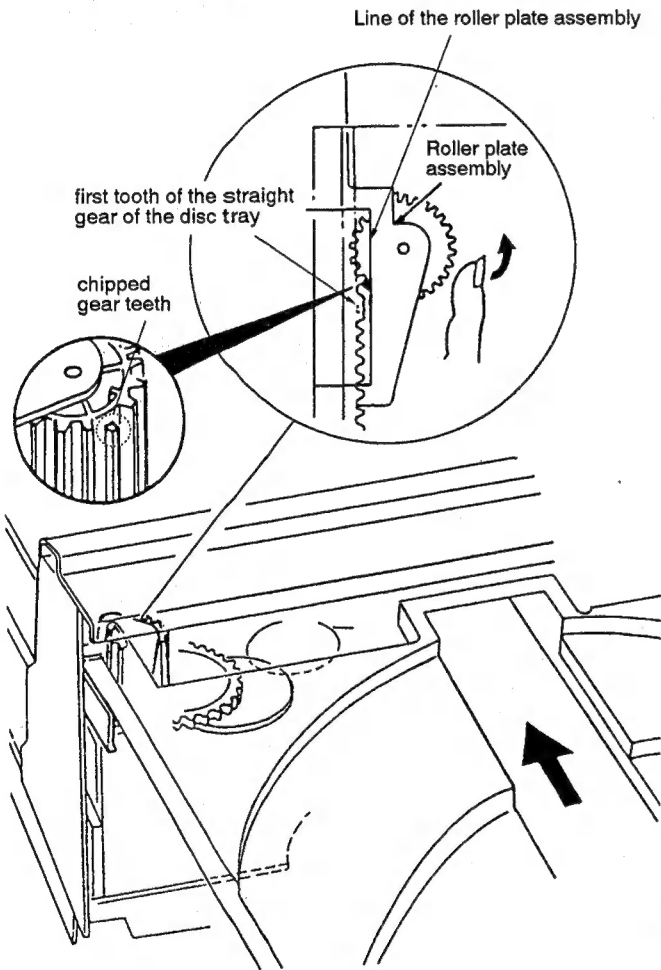

Fig. 19
- ① Adjust the gear positions in the loading mechanism for the disc tray open status, as ② and ③ mentioned below.
- ②: The position where the cam gear turns counterclockwise and stops when the OPEN/CLOSE button is pressed.
- ③: The position where the cam gear stops when the pulley is continuously turned by hand.
- ② The top of one of the gear teeth of the roller plate assembly has been chipped off. Finely adjust the position of this chipped tooth by turning the gear counterclockwise so that the tooth comes halfway on the roller plate line. (Fig. 19)